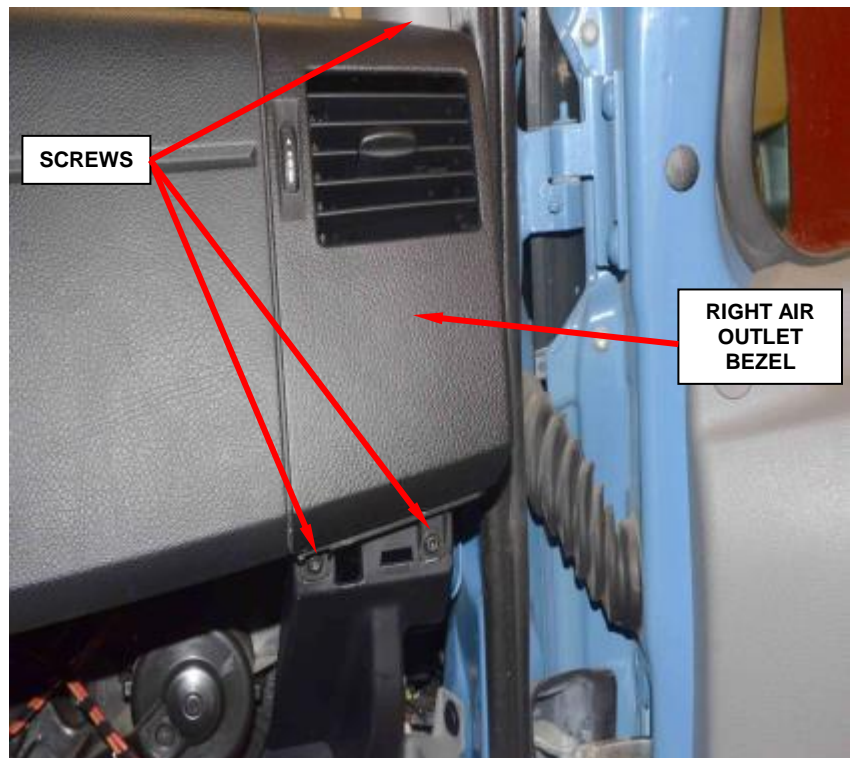

Figure 112 – Right Air Outlet Bezel
10. Remove and save the three right side air outlet bezel screws and remove the right air outlet bezel (Figure 112).